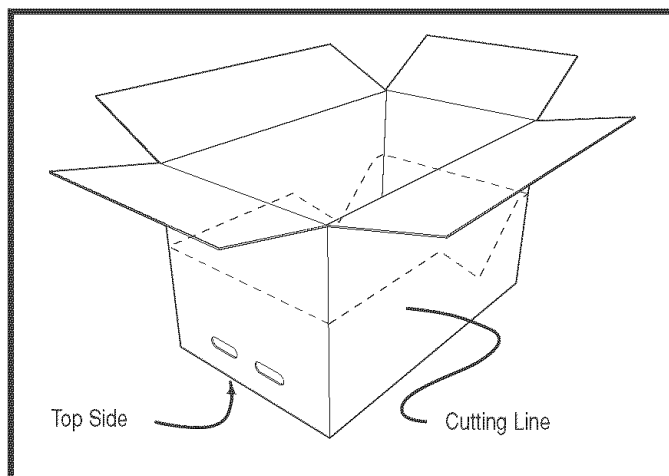

Figure 20
1. Place carton upside down. See Figure 20.